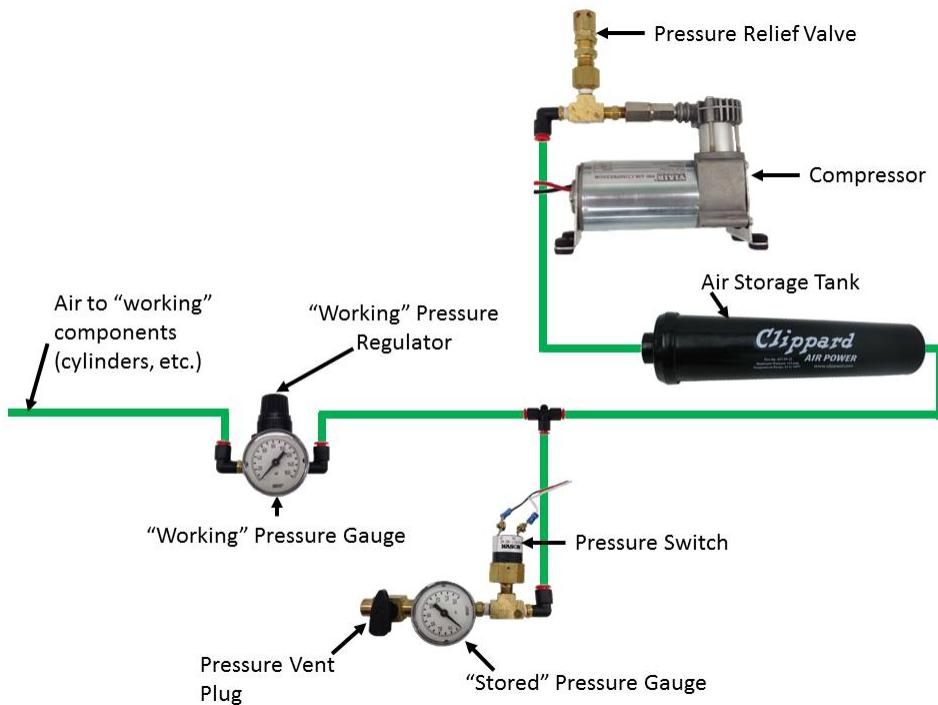

Figure 10-14 Pneumatic circuitry
**R85.** If pneumatic COMPONENTS are used, the following items are required as part of the pneumatic circuit and must be used in accordance with this section, as illustrated in Figure 10-14.
- A.** One (1) FIRST Robotics Competition legal compressor (per R86)